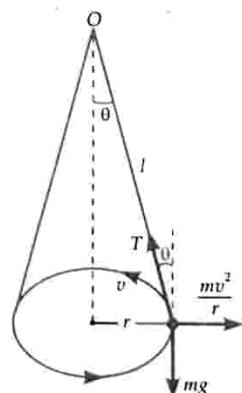

Fig. 9.31
**Solution.** As shown in Fig. 9.31, let the stone be rotated in a circle of radius  $r$  with speed  $v$ . Then the forces acting on the stone are